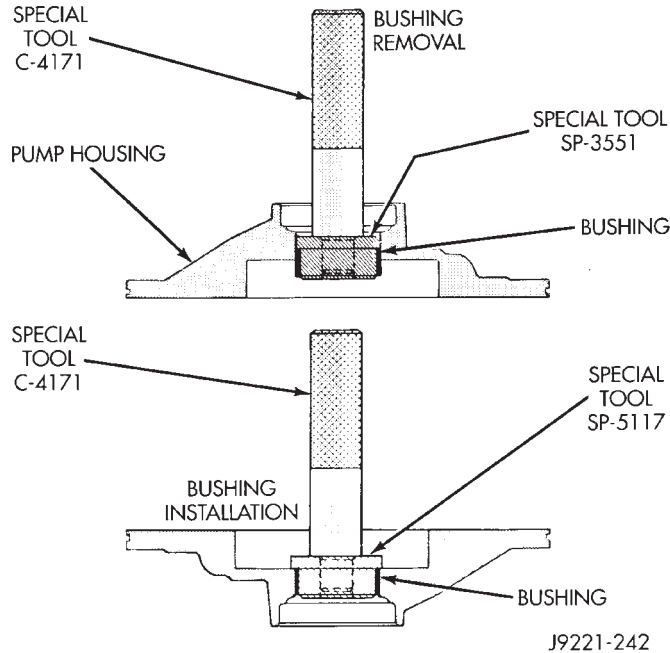

Fig. 141 Removing Oil Pump Bushing
(1) Remove pump bushing with Tool Handle C-4171 and Bushing Remover SP-3551 from Tool Set C-3887-J (Fig. 141).
(2) Install new pump bushing with Tool Handle C-4171 and Bushing Installer SP-5117 (Fig. 141). Bushing should be flush with pump housing bore.